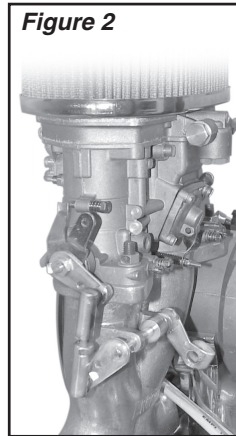

Figure 2
3. Mount new flat carburetor arm on carb throttle shaft as shown in **Figure 2** (Approx. the 5 o'clock position). **DO NOT OVERTIGHTEN THROTTLE SHAFT NUTS, 4-5FT/LBS MAXIMUM.** Slide shaft with carb arm through outside ear on manifold. Before sliding shaft through second ear, slide collar with set screw onto shaft. Slide the shaft the rest of the way through the second mount ear. Position lock collar next to left side edge of second ear (This will keep linkage from "walking"), loosely tighten. Slide bent throttle cable arm onto shaft with short ear facing to the right, loosely tighten (**See Figure 3**).